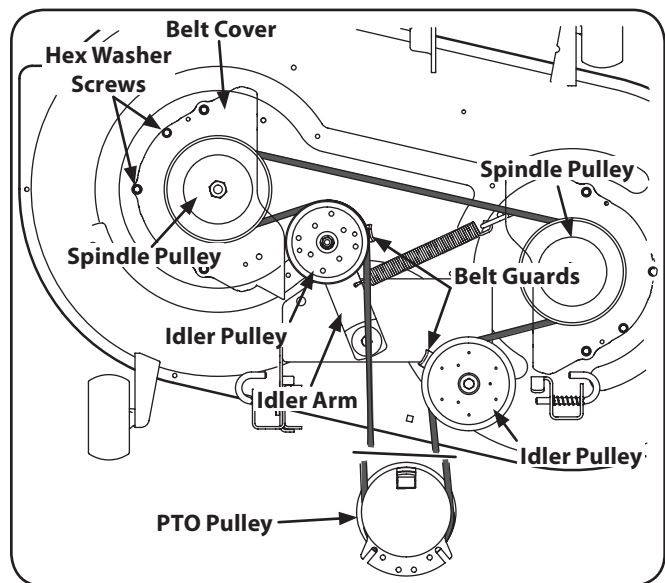

Figure 7-7
2. Remove the hex washer screws securing the belt covers to the deck. See Figure 7-7.
5. Install the new belt around the spindle pulleys as shown and reinstall the belt covers. See Figure 7-7.
7. Route the belt as shown in Figure 7-7 and then reinstall the deck.